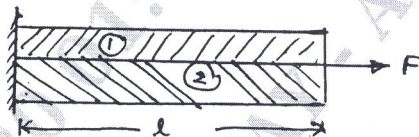

Fig.Q2(a)
- 2 a. Write the equations evolved in the solution of problem of a composite material shown in Fig.Q2(a) subjected to force 'F' with usual notations [① & ② are different materials].